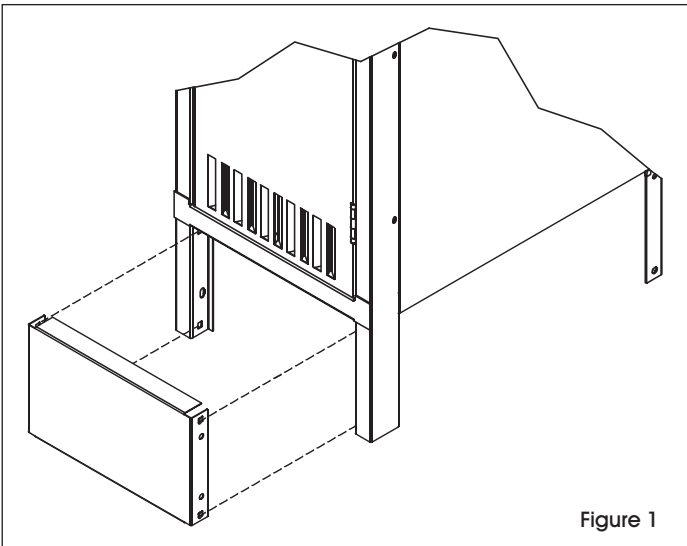

Figure 1
1. Slide front base plate between legs with front ledge under the bottom of the frame. (See Figure 1)